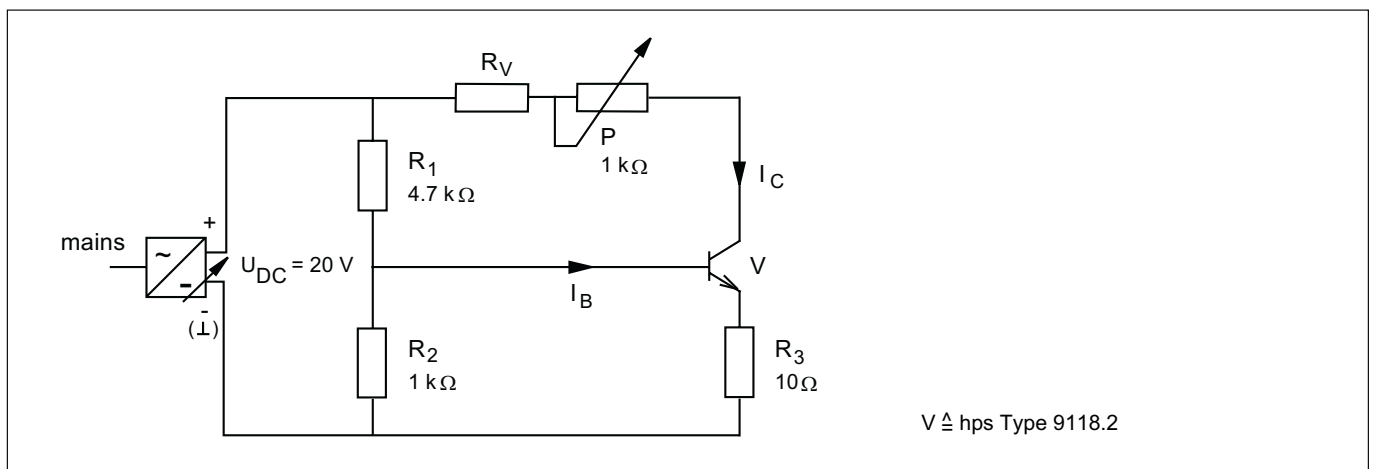

Fig. 4.2.2.1
- Apply a DC voltage of $U_{DC} = 20 \text{ V}$ to the circuit shown in Fig. 4.2.2.1. Measure the base current I_B
- On the diagram (Fig. 4.2.2.2), plot a graph showing the dependence of the base current I_B on the collector current I_C (at a constant base/emitter voltage).